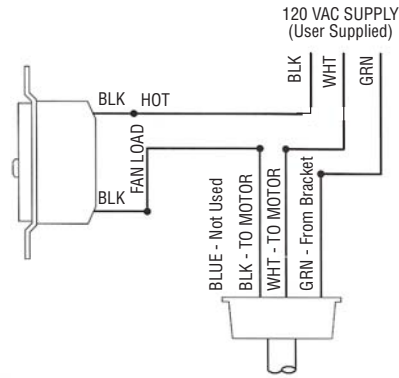

Figure 18
- 2. Connect one BLACK wire from the SW22 Wall Control to the supply HOT lead with a wire connector (provided) (Figure 18).
- 3. Connect the other BLACK wire from the SW22 Wall Control to the Black LOAD wire with a wire connector (provided) (Figure 18).